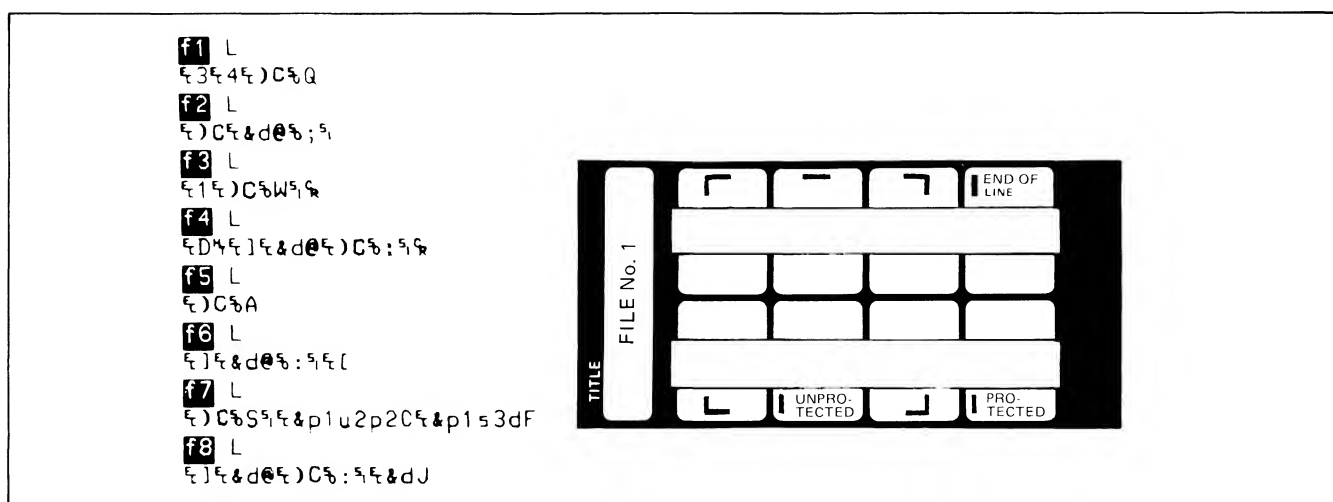

Figure A-1. Soft Key Programming and Soft Key Overlay for File 1
Figures A-1 through A-3 show the escape sequences required to program the soft keys for each of the phases of form building. To record the escape sequences on the first tape cartridge, proceed as follows:
2. Program each key as shown in figure A-1. Mark a key overlay.